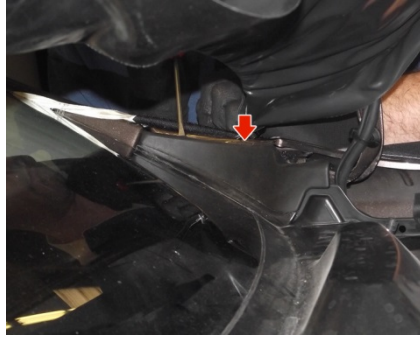

Fig.2
- b. Using a Teflon wedge, remove the l/s and r/s windshield trim. (Fig.2)